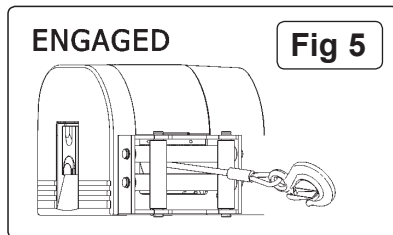

Fig 5
2. Disengage the clutch by lifting the clutch lever (fig 5 & 6).
3. Engage the clutch by pushing the lever down (fig 5).